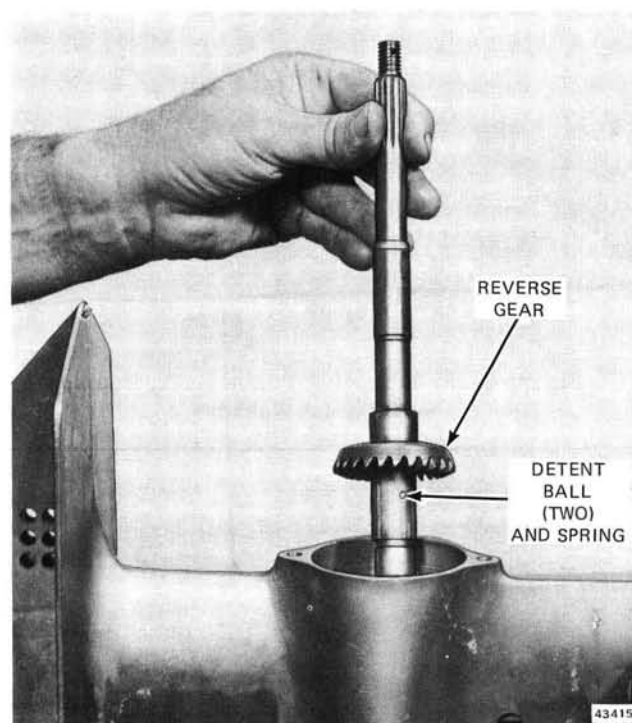

Figure 6-27. Removing Propeller Shaft and Reverse Gear
5. Remove propeller shaft and reverse gear from gearcase. Avoid loss of two detent balls and spring. See Figure 6-27.